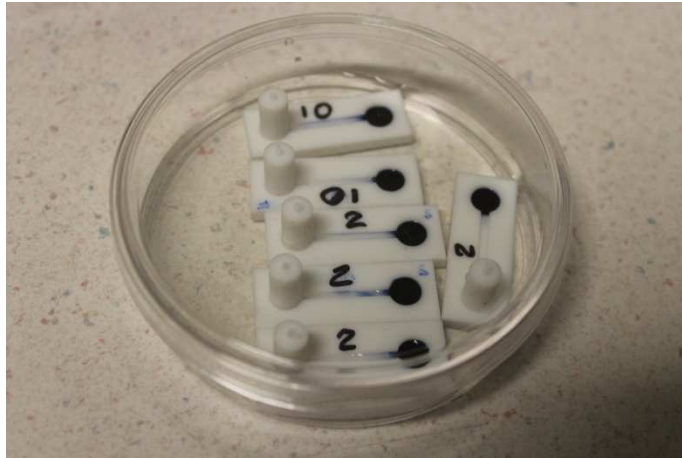

Figure 3. The initial Petri dish arrangement.
4. Place the three molds with one well-blocking insert in each, in a Petri dish. Fill the base of the Petri dish with water to provide a humid environment for the gels. This setup can be seen in Figure 3 below. Position the Petri dish in a location where it will not be moved throughout the remainder of this process or a forcing effect will damage the diffusion experiment.